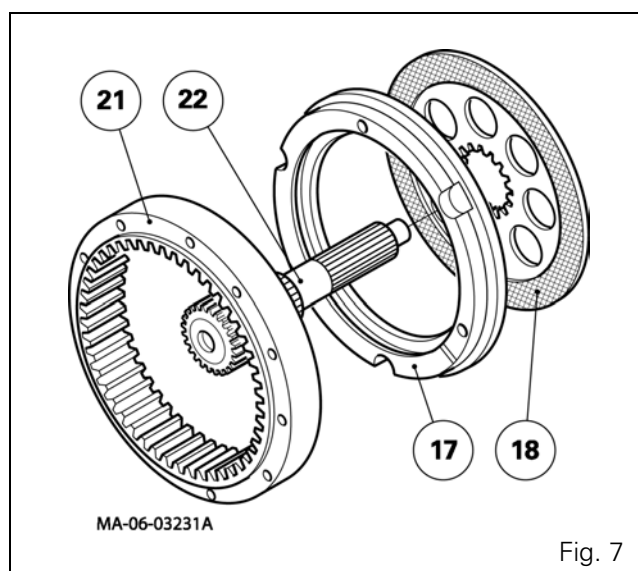

Fig. 7
19. Check that the disc (18) slides freely on the sun gear (22) (Fig. 7)
20. Refit the locating pin (26), the sun gear (22) and the brake disc (18).
22. Refit the brake plate (17) in the trumpet housing.